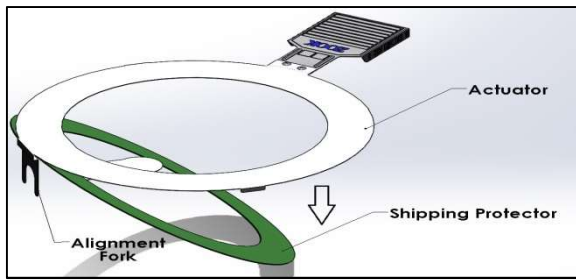

Figure 5 – Z-ALERT Protector Removal
- e) Remove the shipping protector and discard (Figure 5).